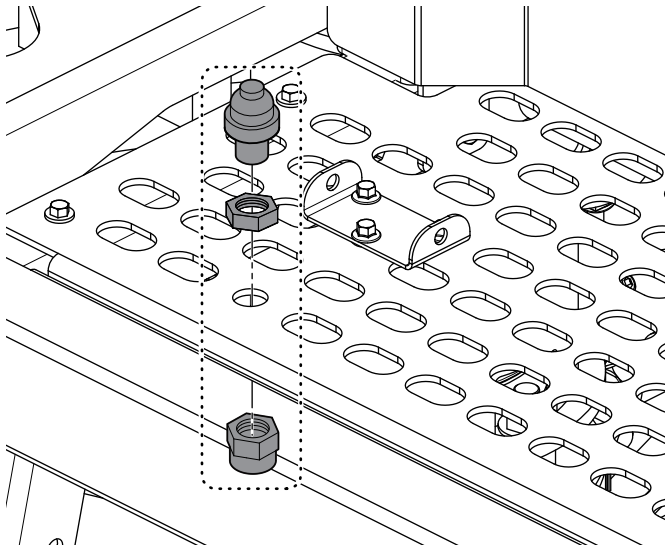

Figure 5. Remove Foot Switch
4. Using a 20 mm wrench and a 7/8-inch wrench, disassemble and remove the **foot switch** (Figure 5) from the front platform.